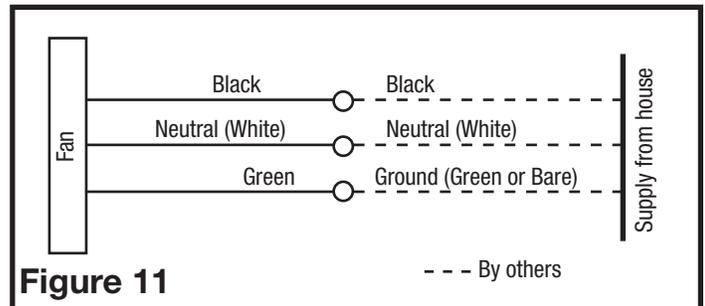

Figure 11
5. For two speed fans wired for continuous ventilation, connect the White wire of the fan to the White (Neutral) wire from the power source. Connect the ground wire from the house to the green wire from the fan housing. Connect the Black wire of the fan to the Black wire (Hot) from the power source (Figure 11). A manual override switch (not included) can be added inline with the black (hot) line to provide a manual fan Off function. If this switch is placed in the Off position none of the unit's functions will operate.
- 3a. **STANDARD MODELS:** Plug the fan's 2 pin and 3 pin quick connect motor cords into the corresponding receptacle located on the wire compartment cover. These cords will only fit one way into the receptacles (**Figure 11**).